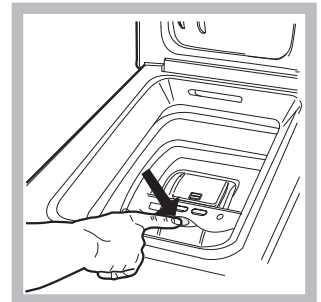

Fig. 2
With one finger, push the button indicated in *fig. 2* and the drum will open delicately.
E) Drum End Stop (Fig. 2):